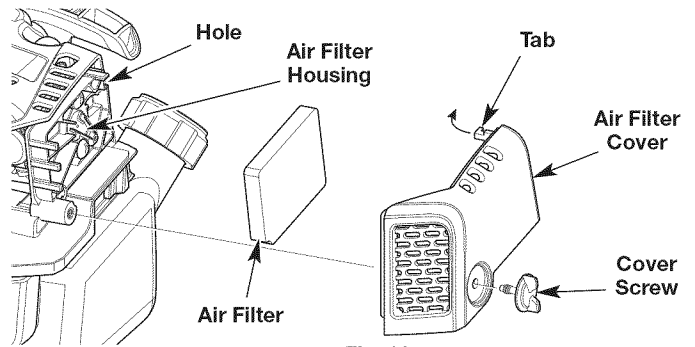

Fig. 23
1. Unscrew the cover screw completely. Swing the air filter cover to the right. Remove the air filter cover from the air filter housing (Fig. 23).
2. Remove the air filter from the air filter housing (Fig. 23).
6. Reinstall the air filter in the air filter housing (Fig. 23).
7. Insert the tab on the air filter cover into the hole on the air filter housing. Swing the air filter cover to the left. Push the air filter cover back onto the air filter housing. Insert the cover screw into the air filter cover. Tighten the cover screw to secure the air filter cover (Fig. 23).